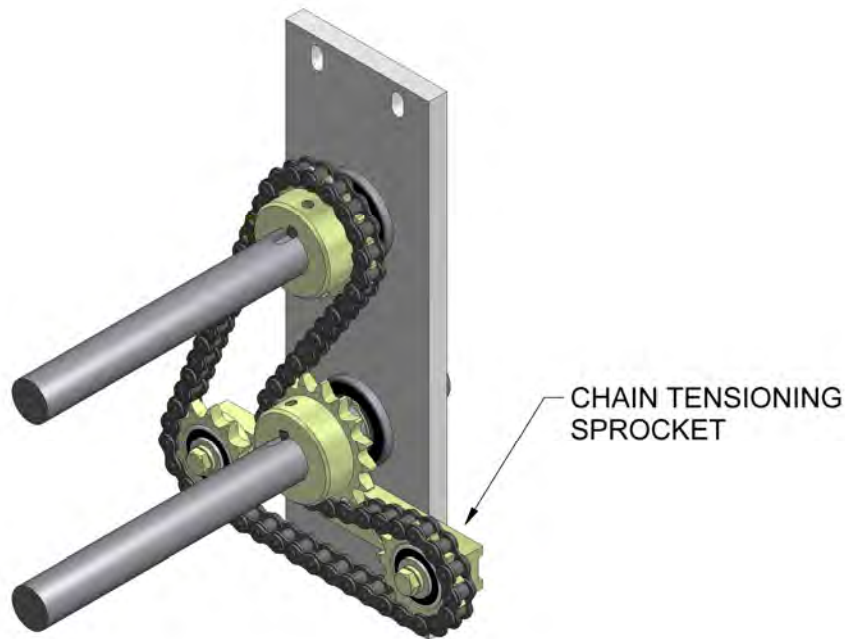

Fig. 8-1. Chain Tensioning Sprocket
- Keep chains properly tensioned. This will add to the life of the chains and sprockets. The chains should be just snug. An over-tightened chain is just as bad for the machine as a loose chain. To adjust tension first unplug the machine, then loosen the bolt on the chain tensioning sprocket, reposition the sprocket as needed, and retighten the bolt, see **Fig. 8-1**.